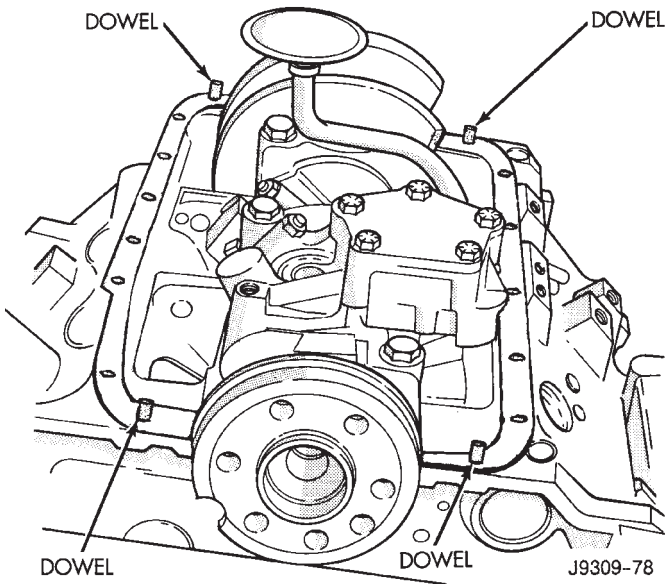

Fig. 45 Position of Dowels in Cylinder Block
(2) Install the dowels in the cylinder block (Fig. 45).
(3) Apply small amount of Mopar Silicone Rubber Adhesive Sealant, or equivalent in the corner of the cap and the cylinder block.
(4) Slide the one-piece gasket over the dowels and onto the block.
(5) Position the oil pan over the dowels and onto the gasket.
(6) Install the oil pan bolts. Tighten the bolts to 24 N·m (215 in. lbs.) torque.
(7) Remove the dowels. Install the remaining oil pan bolts. Tighten these bolts to 24 N·m (215 in. lbs.) torque.
(8) Install the drain plug. Tighten drain plug to 34 N·m (25 ft. lbs.) torque.
(9) Install front driving axle (refer to Group 3, Drive Axles and Group 2, Front Suspension for the proper procedures).
(10) Install exhaust pipe.
(11) Lower vehicle
(12) Connect the distributor cap.